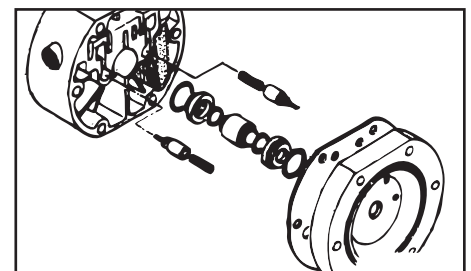

Figure 27-1
- Draw out the pilot valve and valve seat (See Figure 27-1).
- Pilot valve assembly (See Figure 27-1,27-2)